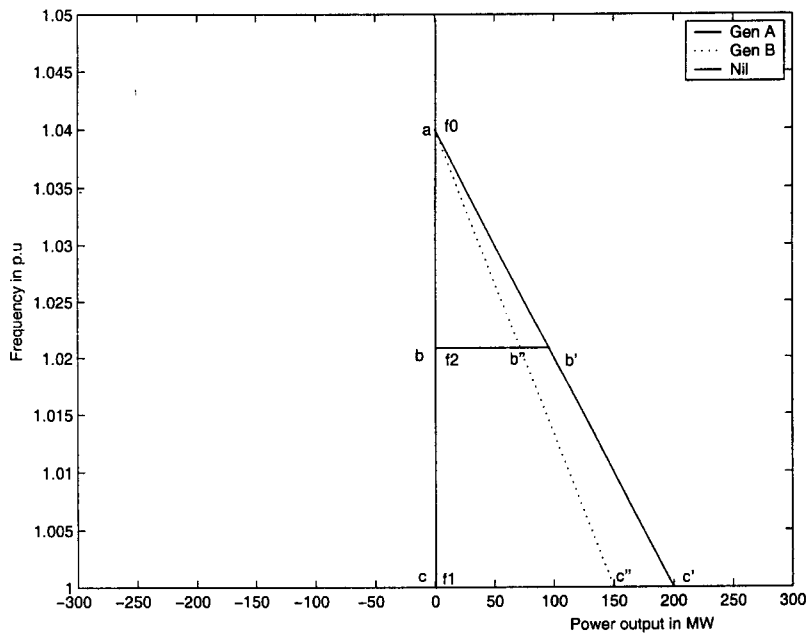

Figure 5.1: The droop characteristics of Gen A and Gen B
- (c) (New computed example) The droop characteris of Gen A and Gen B are drawn from the data in problem 5.c and are shown in the Figure 5.1. [4marks]